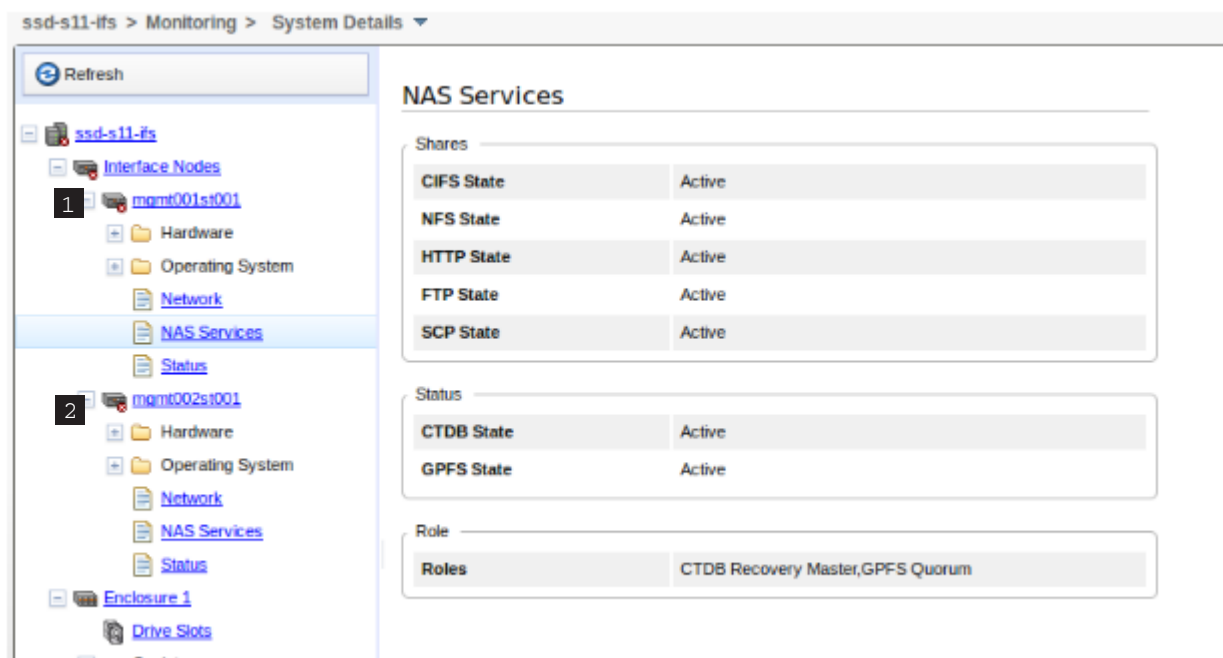

Figure 47. Management GUI showing CTDB status for both file modules
- Review the status of both file modules, **1** mgmt001st001 and **2** mgmt002st001, as shown in Figure 47.